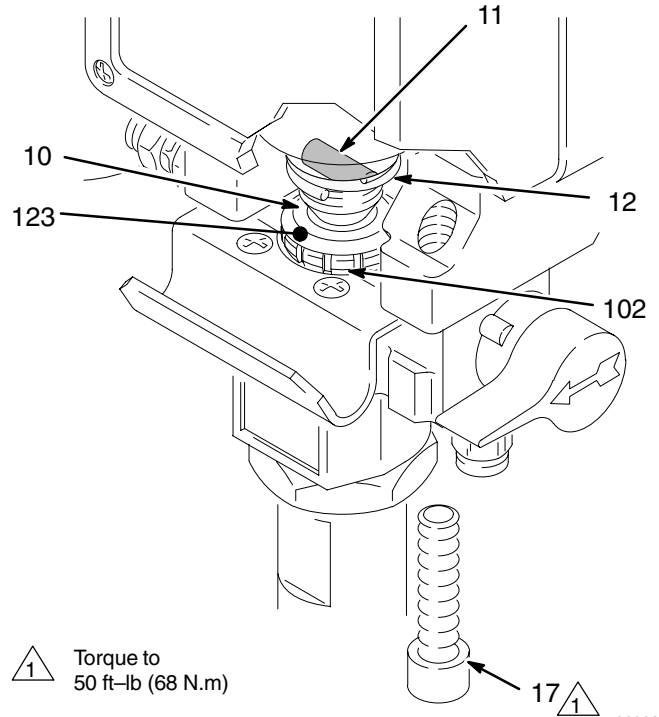

Fig. 25
Be sure the retaining spring (12) is firmly in the groove all the way around, to prevent the pin (11) from working loose due to vibration. See Fig. 25.